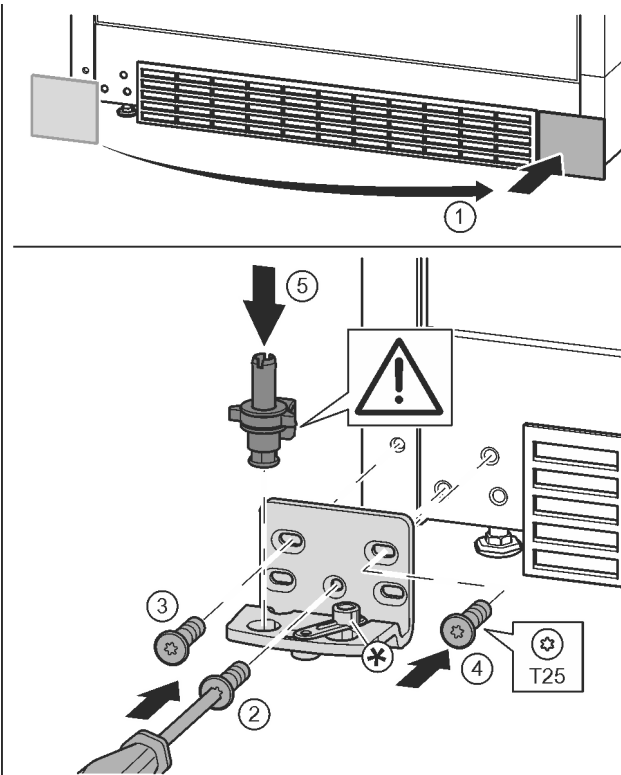

Fig. 15
- ▶ Remove the cover and fix it on the other side. Fig. 15 (1)
- ▶ Place the bearing bracket on the other side and screw in with the aid of a T25 screwdriver. Start with screw 2 at the bottom in the middle. Fig. 15 (2)
- ▶ Screw in screws 3 and 4. Fig. 15 (3, 4)
- ▶ Insert the bearing pin completely. Make sure that the catch mechanism is pointing to the rear. Fig. 15 (5)